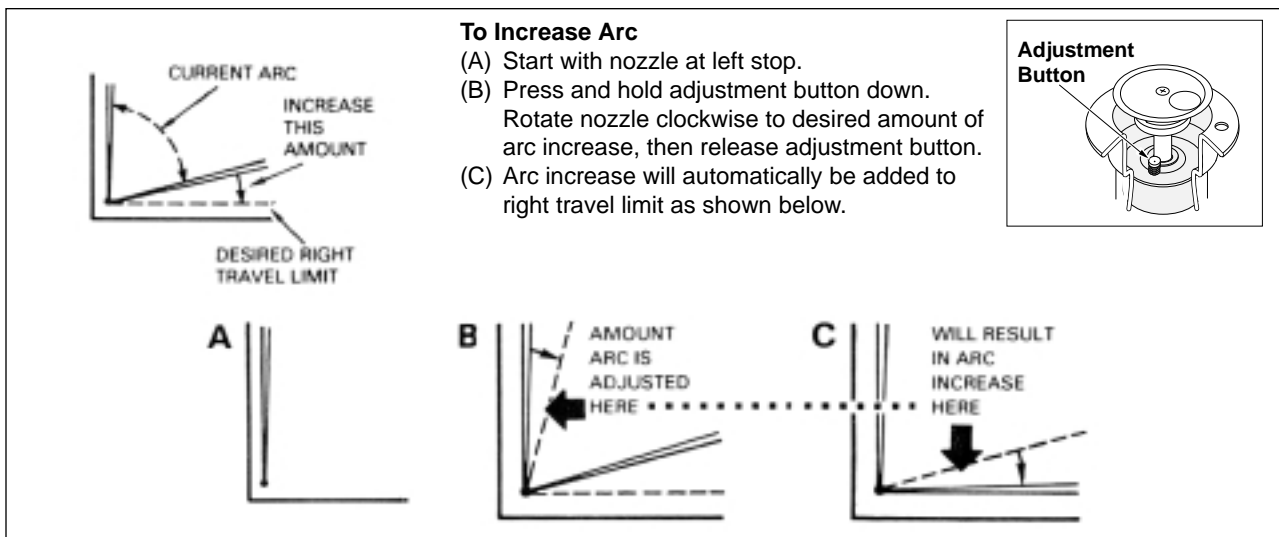
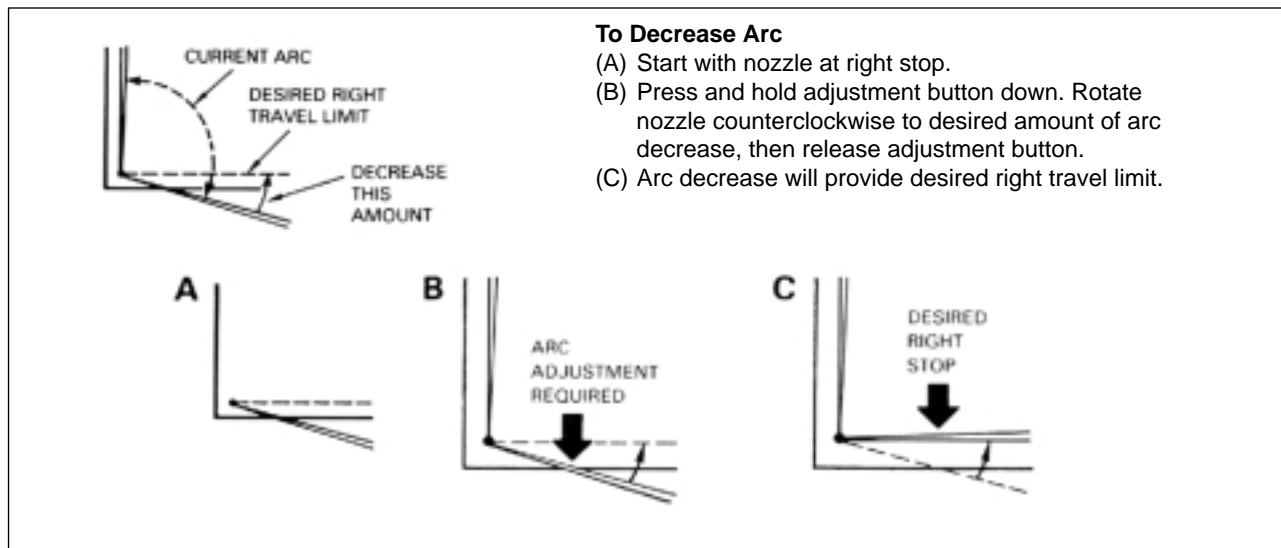

Figure 2 - Increase Sprinkler Arc
Figure 3 - Decrease Sprinkler Arc
- To increase arc, see **Figure 2**. To decrease arc, see **Figure 3**.